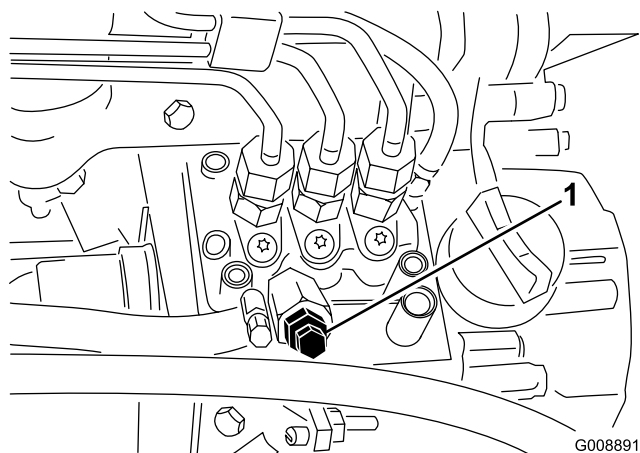

Figure 41
- Open the air bleed screw on the fuel injection pump (Figure 41).